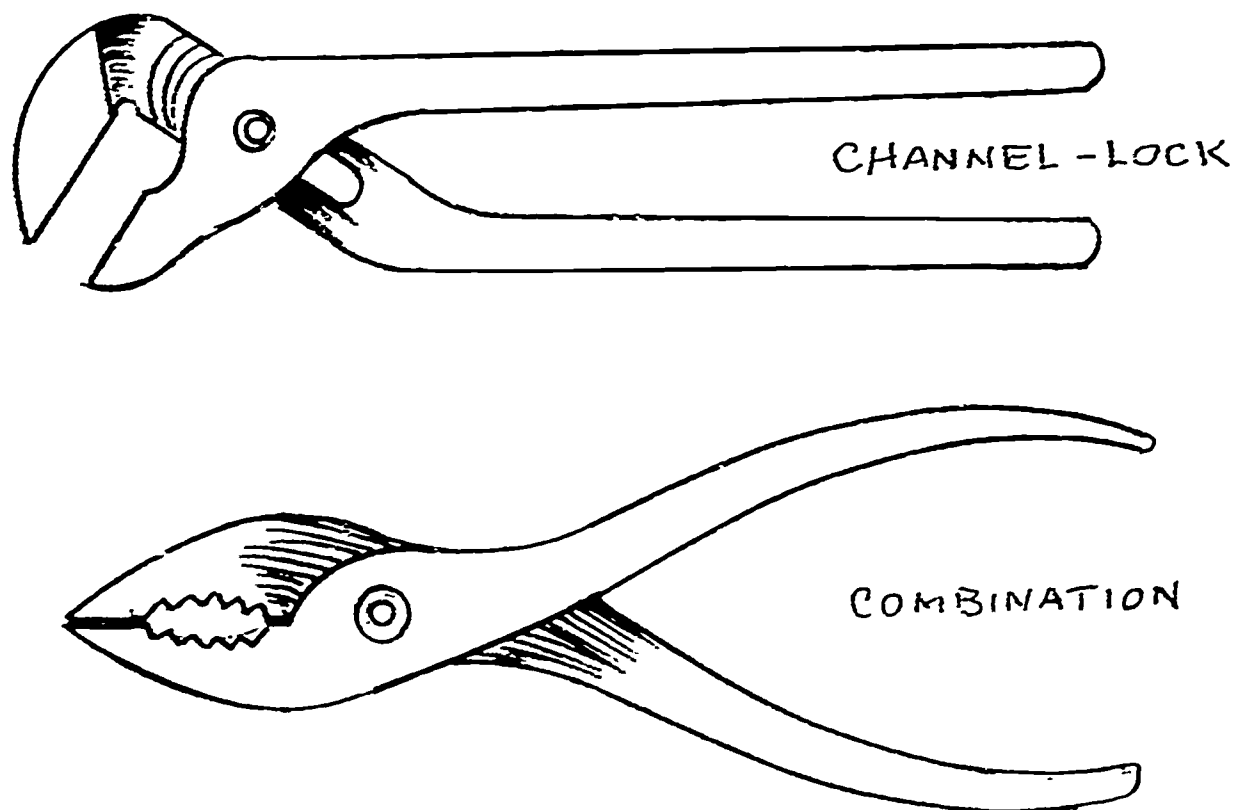

FIG. 213
6. Pliers - There are probably more varieties of this tool than any other piece of hand equipment. This is accounted for by the fact that the use intended dictates the size, shape and construction of the pliers. For all around use by the custodian, other than electrical work, probably the combination pliers is the best. See figure 213. Another type for general use is the channel-lock or tongue and groove pliers. See figure 213. Both of the above types are adjustable to grip large or small objects. Both come in various sizes from 6" to 14".